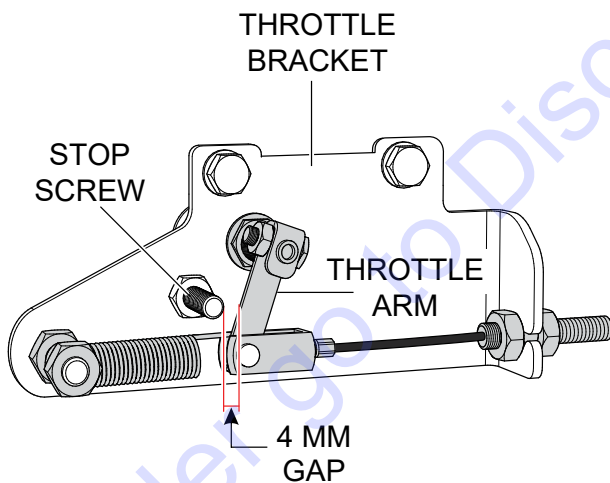

Figure 22. Throttle Arm Gap (4 MM)
3. Verify that a 4mm gap (Figure 22) exist between the throttle arm and the stop screw. Adjust if necessary.